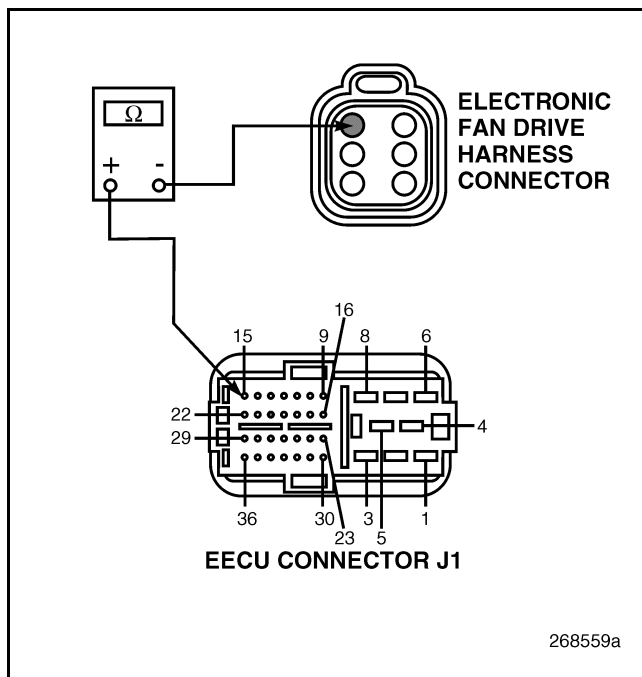

Figure 134
4. Check for continuity between EECU harness connector J1 pin 15 and electronic fan drive harness connector pin 1 (see Figure 134).